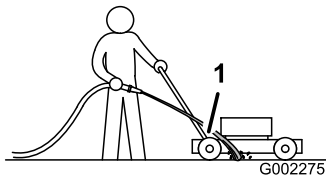

Figure 32
3. Hold the running garden hose at handle level and direct the water to flow on the ground just in front of the right rear wheel (Figure 32).